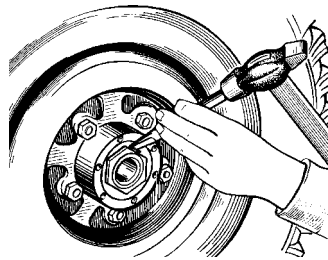

Fig. 62. Locking Hub Bearing Nuts
9. Bend the one tab of the locking washer round the flat of the nut, bend the second tab round the flat of the locking nut. (Fig. 62).